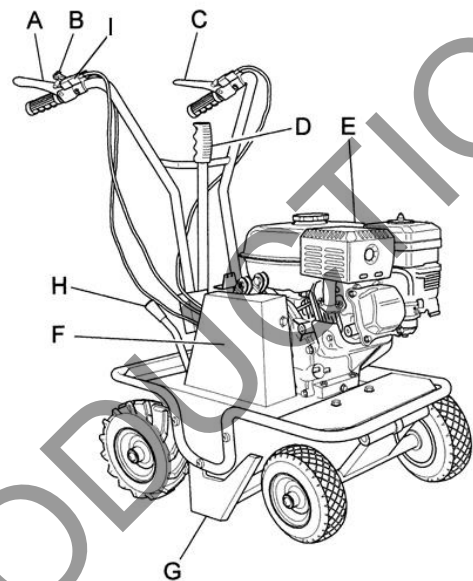
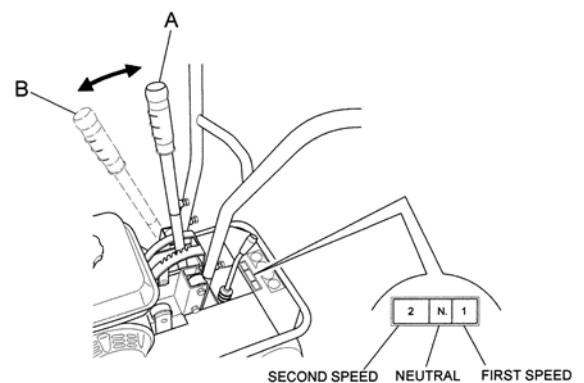
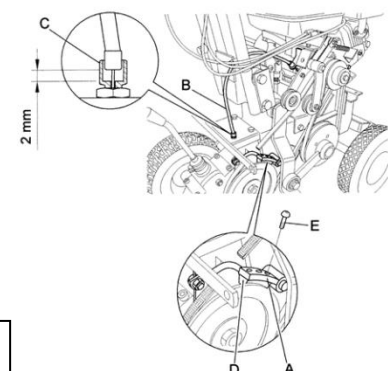

Fig. 1
Fig. 2
Fig. 9
This lever serves to adjust the cutting height according to the type of terrain and the thickness of the turf to be cut. (Fig.2 Ref. A)
The cover (Fig. 1, ref. F) prevents any contact with the moving parts of the machine. Use of the machine without the said cover is strictly prohibited.
WARNING: Select the required gear only after disengaging the forward clutch by releasing the relative lever (fig. 1, ref. C).
1. Move the gear lever (fig.2) to the 1st speed position
2. Engage the blade control level using the relative lever (Fig. 1, ref. A)
3. To move the machine, accelerate and then engage the forward clutch using the relative lever (Fig. 1, ref. C).
4. To select a different gear the forward clutch and the blade clutch must first be disengaged by releasing their levers (Fig. 1, ref. C and Fig. 1, ref. A). Then select the desired FORWARD position (in fig. 2) using the gear lever (Fig. 2), then re-engage the forward clutch control lever (Fig. 1, ref. C) to set the machine in motion again.
5. To stop the blade release the relative lever (Fig. 1 ref. A)
6. To stop forward movement of the machine release the relative le.1, ref. C) Then switch off the engine by moving the switch to the position (O) as shown in figure 1, ref. I.
- 2) At first the setting of a relatively high cutting height is recommended (using the relative lever in figure 2, ref. A), lowering it gradually according to working conditions.
- 3) Engage the blade clutch (Fig. 1, ref. A) only after having carried out the machine switch on and gear engagement operations.
- 4) Before engaging the blade clutch (Fig. 1, ref. A), gradually move the accelerator (Fig. 1, ref. B) until the required speed is reached
- Remove the blade (Fig.1 Ref. G) following the instructions provided in the section entitled "Blade removal and replacement"
The service brake (Fig. 9 Ref. A) is connected to the forward control lever (Fig. 1 Ref. C).
With the forward control lever released and the brake engaged ensure that there is play of approximately 2 or 3 mm between the adjustment screw and the brake cable (Fig. 9 Ref B and C)
Make sure that the front part of the brake in direct contact with the pulley (Fig. 9 Ref. D) is not worn. If so, replace it.